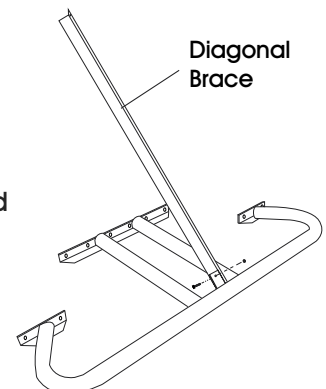

Figure 3
3. Loosely attach both diagonal braces to both leg frames using one 3/8" flange nut and one 3/8" hex head bolt per leg frame. (See Figure 3)